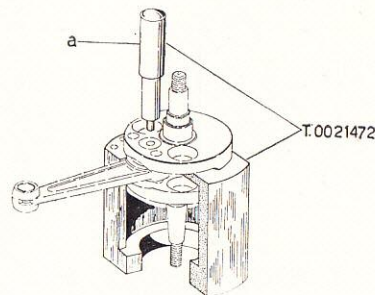

Fig. 88.
1. Position the crankshaft on the anvil of the blocks T.0021472 (Fig. 88) and use the suitable drift "a" (T.0021472/1) under a press to clear the bore of the upper crankweb. Collect the con. rod, shim washers and rollers.